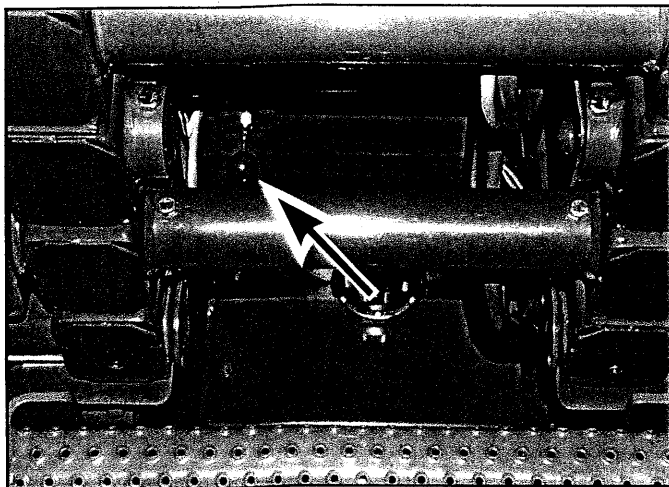

Figure 2-5: Emergency Lowering Valve Knob
13. Open the Chassis Emergency Lowering Valve (Figure 2-5) to check for proper operation, by pulling the knob out. When the platform is lowered, release the knob.